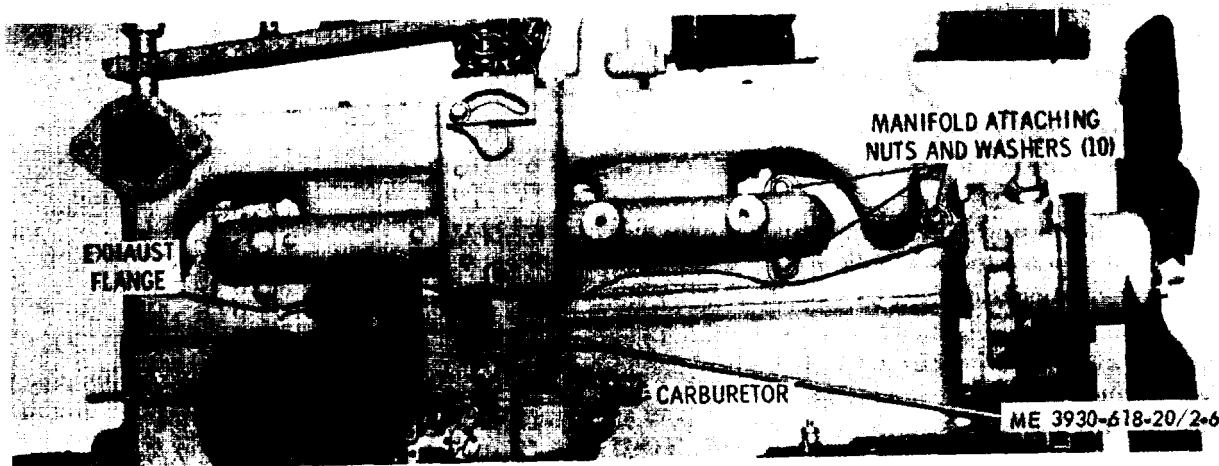

Figure 2-6. Manifold assembly, installed view.
b. Removal. Refer to figure 2-6 and remove the manifold as follows:
(1) Remove engine side panels, seat, seat deck, and air cleaner.
(2) Remove the carburetor air hose, rocker arm cover breather line and exhaust pipe.
(3) Disconnect choke control, accelerator rod, and governor control rod from the carburetor (para 2-17).
(4) Close the fuel supply valve at the fuel tank. Remove the carburetor (para 2-17).
(5) Remove the nuts and washers attaching the manifold to the studs and remove the manifold.
(6) Remove the retainers and gaskets from the manifold ports.
a. Remove the rocker arm cover vent valve and install a vacuum gage in the pipe plug opening in the intake manifold (fig. 2-6).
(1) If the engine is normal, a vacuum of approximately 18.3-inch suction pressure will be indicated. The pressure will drop to about 3.4 inches when the throttle is opened and will increase, to about 24 inches when the throttle is closed.
(2) A vacuum of 15- or 16-inches with a steady needle indicates that the piston rings, pistons, or lubricant are probably in poor condition. Slight needle motion indicates late ignition timing.
(3) A vacuum of 8- to 12-inches with a steady needle indicates worn valve guides, worn piston rings, poor lubricant, or an intake manifold leak.
(4) A vacuum of below 5 inches with a steady needle indicates an intake manifold leak.
(5) If the vacuum pressure is normal when the engine starts but drops gradually, the exhaust system is probably defective or the muffler is restricted.
(6) If the vacuum is normal but drops at irregular intervals, sticking valves; rich or lean carburetor mixture; or defective spark plugs are indicated.
(7) If the vacuum pressure is normal but drops at regular intervals, defective valves or a leaky cylinder head gasket is indicated.